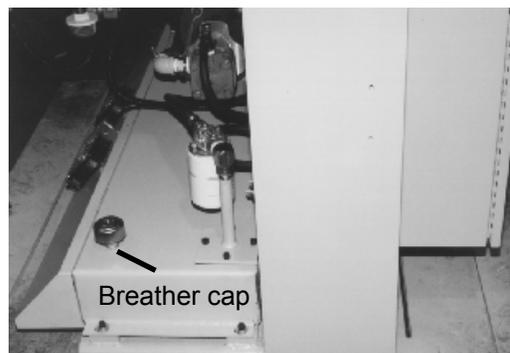

Figure 21
2. Remove the hydraulic breather cap (see Figure 21).